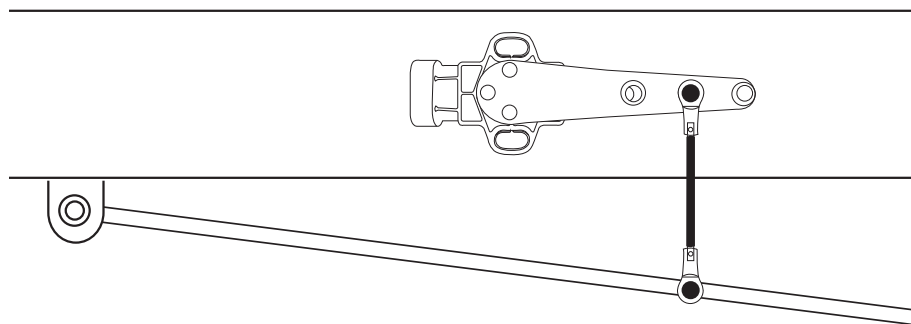

fig. 16
9. Assemble linkage back together, and fasten it to the sensor arm and lower mounting location with supplied hardware (fig. 16). Temporarily secure the sensor in its intended location including using the height sensor spacer that is provided.